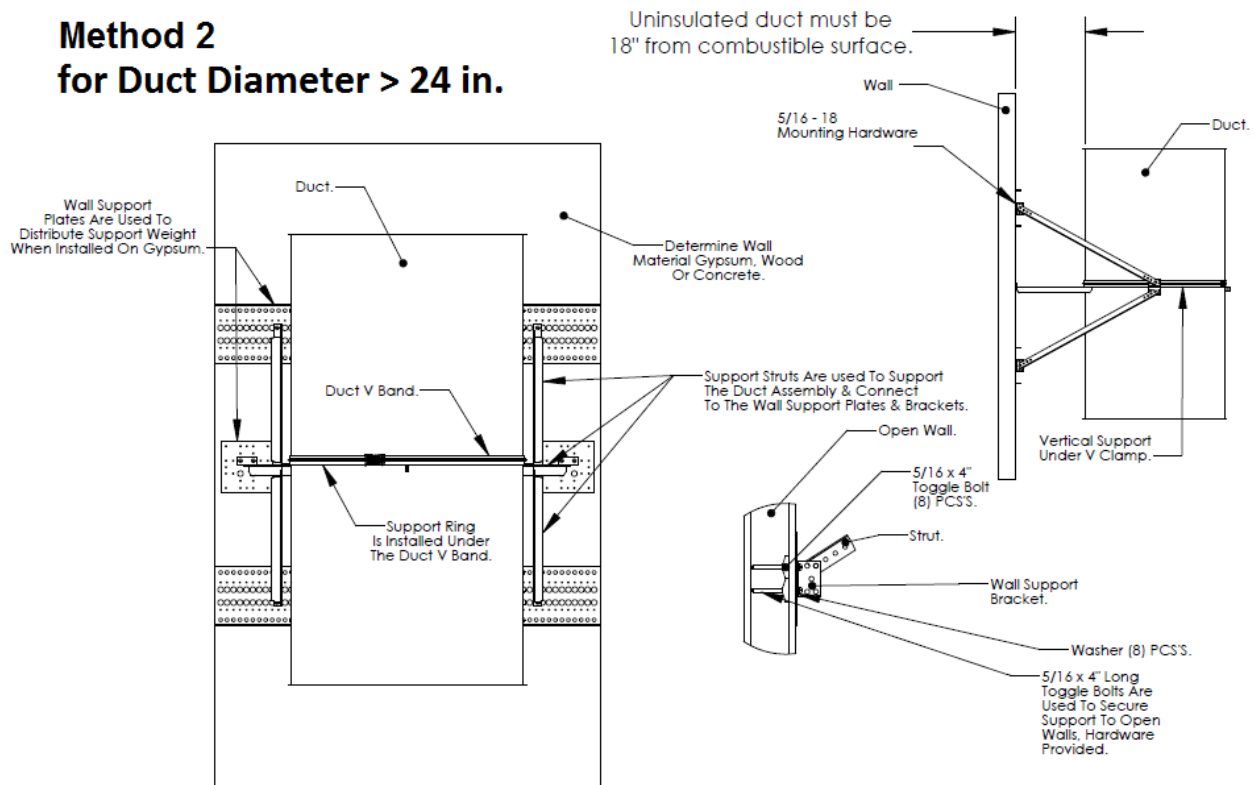

Figure 4. Vertical Wall Supports
B. **VERTICAL SUPPORTS (Wall)** – Refer to Figure 4 for depiction of Method 1 and Method 2 installations. Use the vertical support assemblies supplied by the duct manufacturer and consisting of the following 12 GA steel components:
Where the prefabricated grease duct (Item 1) is installed vertically along a wall as depicted in Figure 4 below, provide supports spaced as follows: